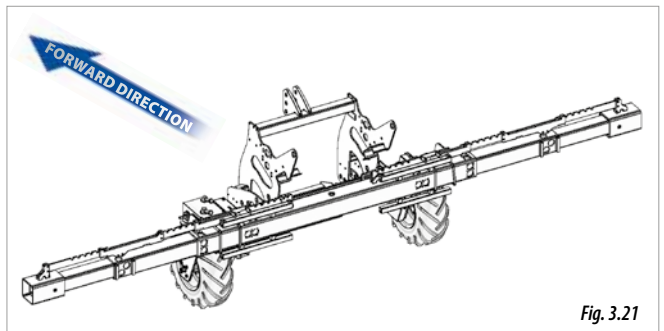

Fig. 3.21
- Variant double telescopic (Fig. 3.21)